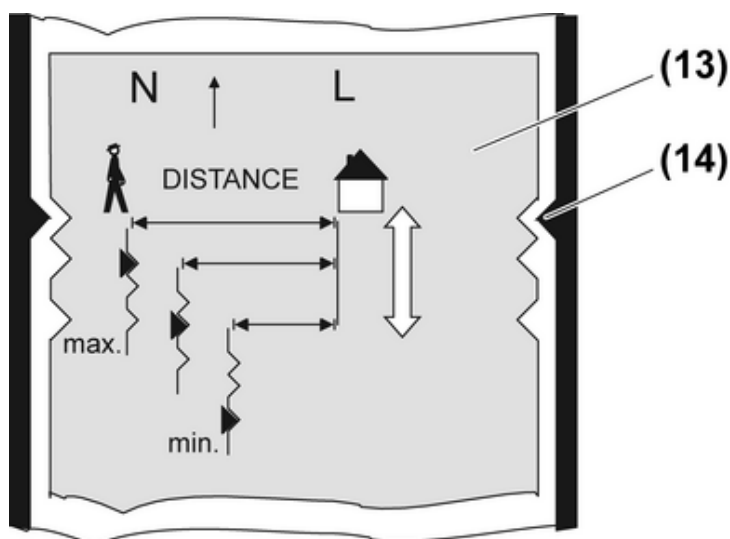

Figure 6: Setting the range
- Internal housing in middle or lower lock (Figure 6)
The range of the motion detector can be set in three stages by sliding the internal housing (13) (Figure 6).
- Set the range by sliding the internal housing (Figure 6).